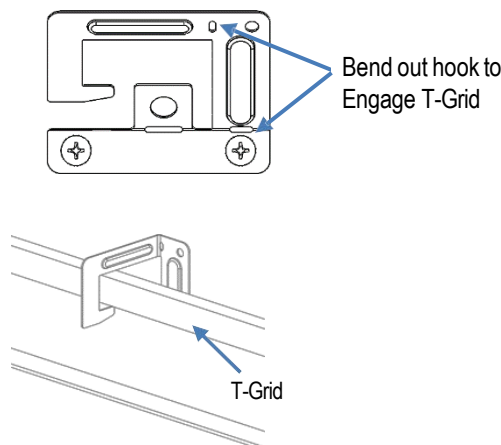

FIG. 10: T-GRID MOUNTING
- From above ceiling, bend the attached T-Grid clips over the T-Grid ceiling on all 4 corners to secure the fixture to the T- Grid. See Figure 10.